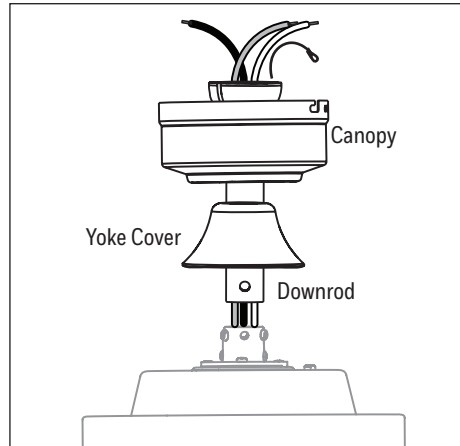

Figure 3.2
2. Insert the downrod through the canopy and yoke cover. Feed the wires and braided cable from the fan through the downrod (Figure 3.2).